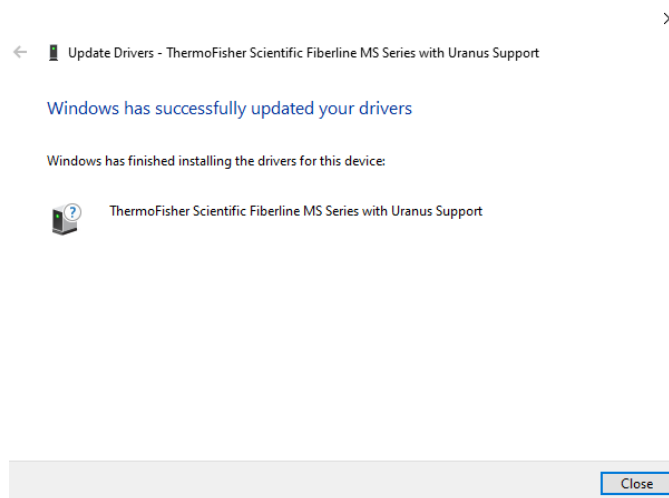

Figure 4-13. Fiberline interface PCI card driver installed (32 bit)
8. The Fiberline interface PCI card driver has been correctly installed and is displayed as **Thermo Fisher Scientific Fiberline MS Series with Uranus support** (under Windows 10 32 bit, see Figure 4-13) or as **Thermo Fisher Delta PCI** (under Windows 10 64 bit).